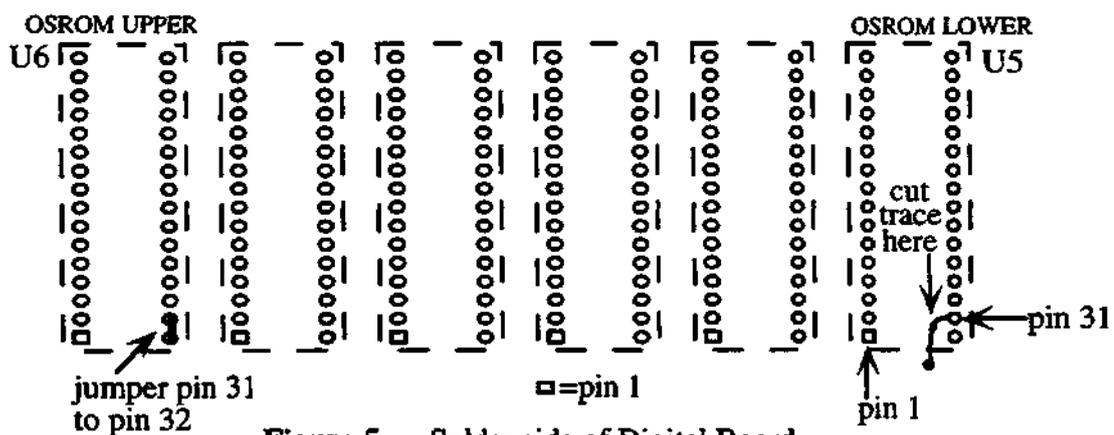

Figure 5 - Solder side of Digital Board
5. Using a razor knife, carefully cut the trace coming off OSROM LOWER (U5) pin 31 as shown in **Figure 5**.
6. Jumper (connect) pin 31 to pin 32 on OSROM UPPER (U6) as shown in **Figure 5**. You can connect these pins by using a short piece of wire or by using a solder bridge.